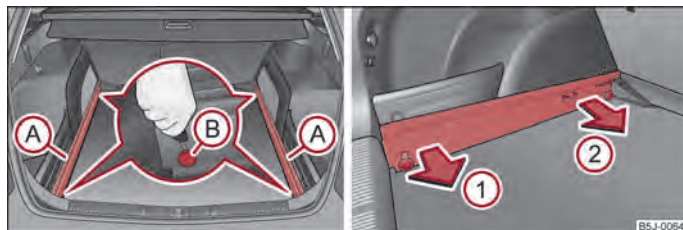

Fig. 51 Luggage compartment: Slacken check points/remove carrier rails
- Slacken the check points (B) on the carrier rails using the vehicle key or a flat screwdriver ⇒ fig. 51.
- Grasp the carrier rail (A) at the position (1) ⇒ fig. 51 and slacken it by pulling in the direction of the arrow. You can take out the removable storage compartments in order to facilitate the removal ⇒ page 71, Removeable storage compartments in the luggage compartment.
- Grasp the carrier rail (A) at the position (2), slacken it by pulling in the direction of the arrow and take it out.